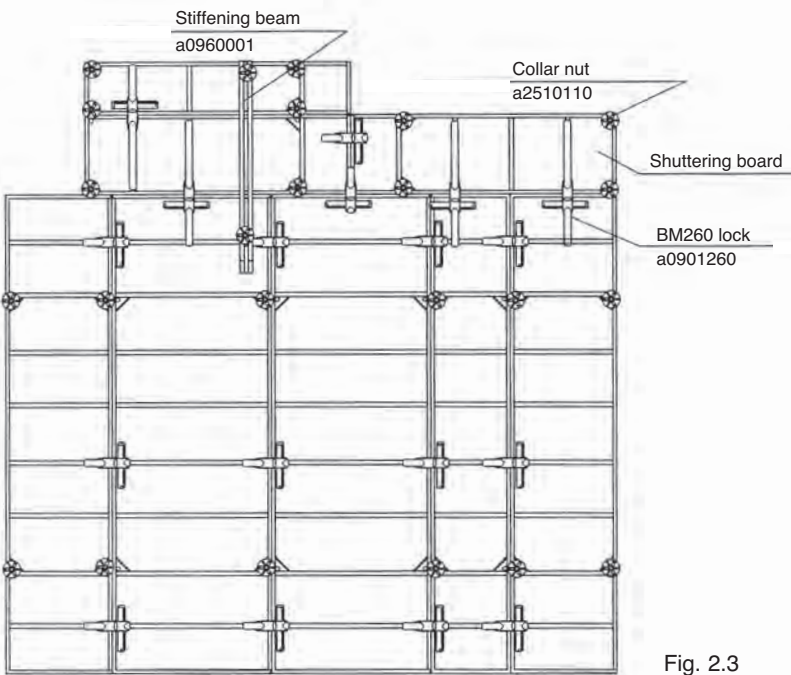

Fig. 2.3
- b) shuttering boards with superstructures are connected by means of BM710 locks with longer straightening shoe (710 mm) so that straightening plane is larger. A stiffening beam or boarding transom may be used instead of BM710 lock (Fig. 2.3);